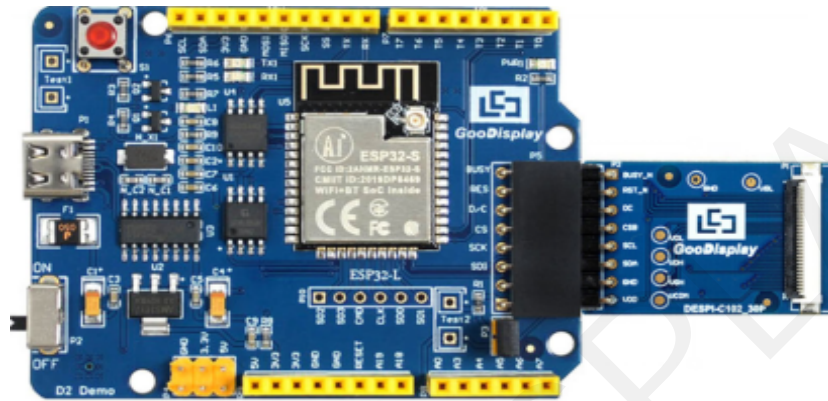
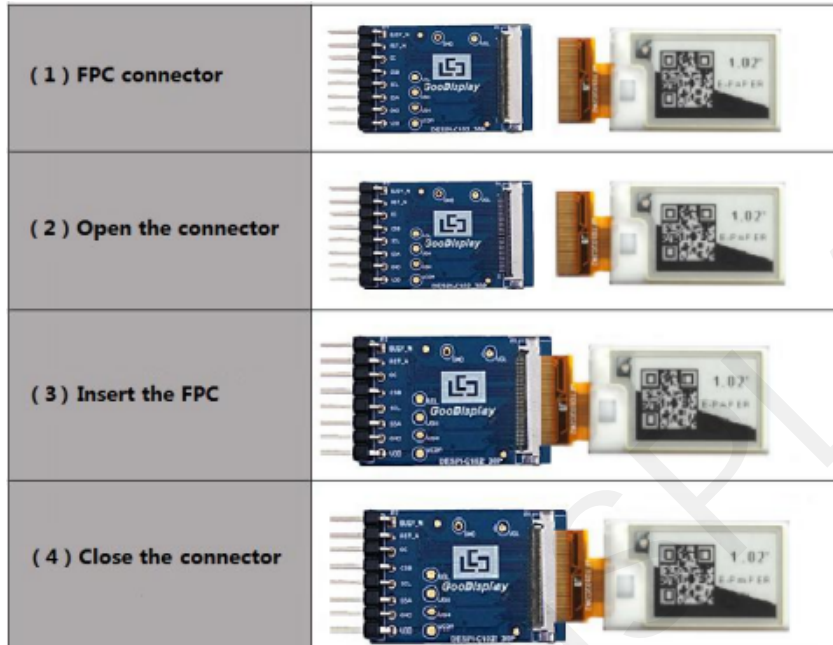

Figure 3 : Connection between ESP32-L for EPD and DESPI-C102
Figure 4 : Connection between DESPI-C102 and e-paper
Connect DESPI-C03 to ESP32-L for EPD as shown in Figure 3. Connect e-paper FPC to DESPI-C102 as shown in Figure 4. (Please note the direction of the e-paper.)
2) Insert the e-paper FPC gold finger upward into the P1 connector of the adapter board as shown in Figure 4.